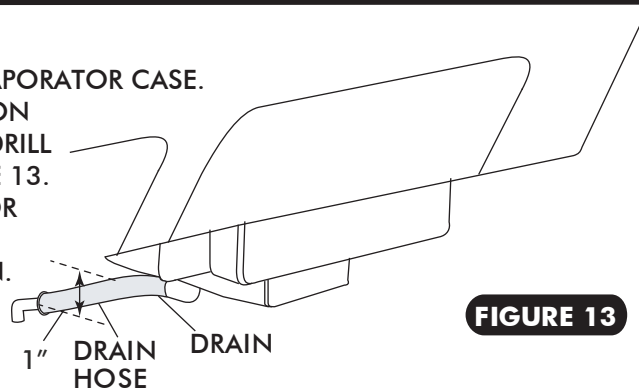

FIGURE 13
- ☐ IN LINE WITH THE DRAIN, LIGHTLY MAKE A MARK ON THE FIREWALL. MEASURE ONE INCH DOWN AND DRILL A 5/8" HOLE THROUGH THE FIREWALL. SEE FIGURE 13.